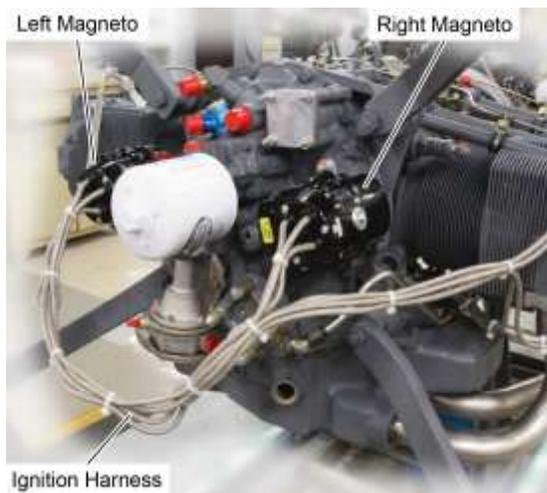

Figure 5
- A. Remove the ignition harness (Figure 5) from the engine harness.
- (1) Disconnect the clamps that attach the ignition harness to the engine.
- (2) Remove the screws which attach the harness cap to the magneto.
- (3) Disconnect the ignition leads from the spark plugs.
- (4) Remove the ignition harness.
- A. Examine the leads on the ignition harness (Figure 5) for broken, frayed, chafed, abraded, degraded, overheated, damaged wiring and connections, or insulation breakdown. Replace the ignition harness if a wire or ignition lead is broken, frayed, chafed, abraded, degraded, overheated, damaged, or the insulation is broken.
- A. Attach the left ignition harness to the magneto labeled “Left” (Figure 5).
- (4) Torque the spark plug lead nut per instructions in the latest revision of Service Instruction No. SI-1042.
- D. Position the ignition leads (Figures 5 and 6) to prevent chafing by baffles or engine parts. There must not be any kinks or sharp bends in the ignition lead wire routing.